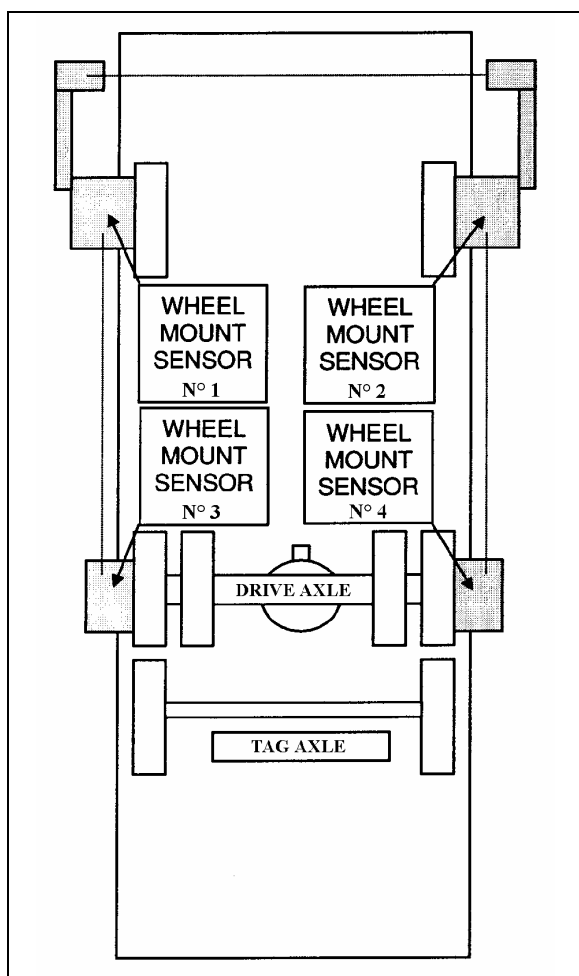

FIGURE 7: FRONT & DRIVE AXLE ALIGNMENT 11025
3. Install wheel mount sensors on front end and drive axle wheels (fig. 7).
See reference numbers on wheel mount sensors (fig.7).
- With the system installed as in figure 7, adjust drive axle according to specifications' chart below.